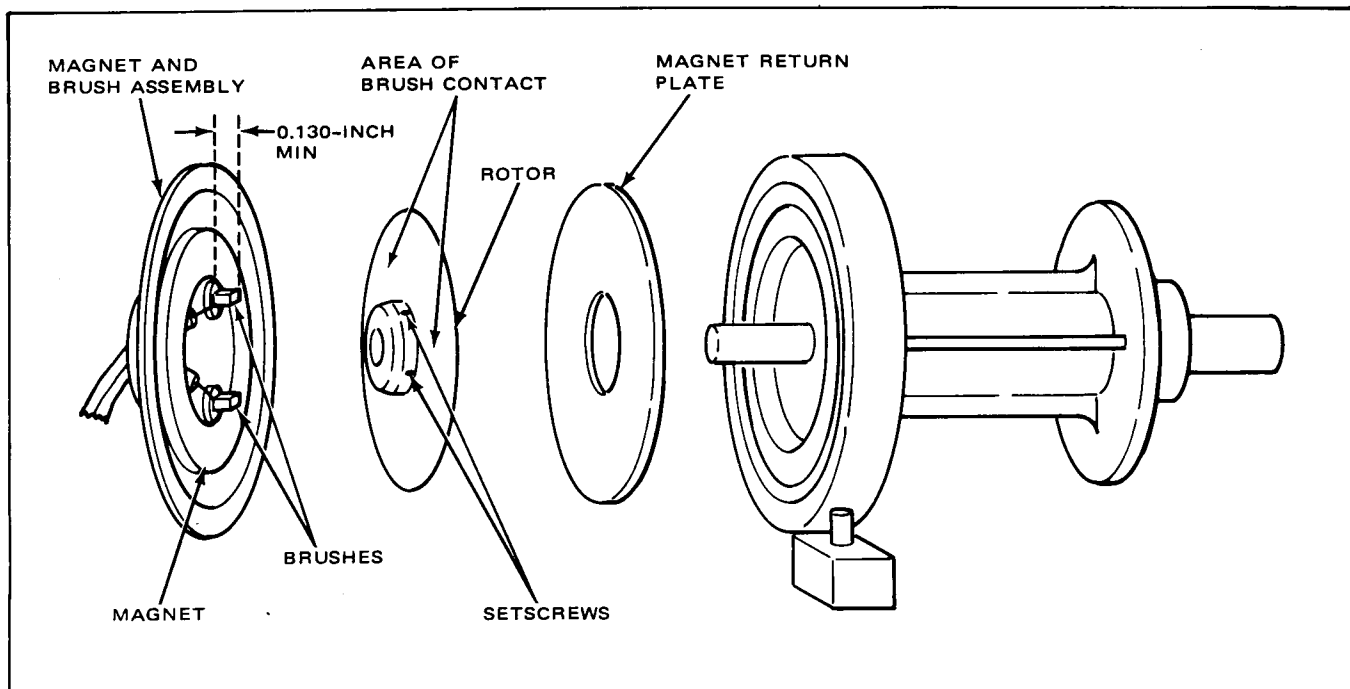

Figure 5-12. Servo Motor Maintenance
3. Carefully pry the magnet and brush assembly away from the motor body with a flat-blade tool (see Figure 5-12).
7. If the rotor was removed for cleaning, use a 0.010-inch feeler gauge between the rotor and the magnet return plate (see Figure 5-12) while tightening the rotor setscrews. Remove the feeler gauge and ensure that the rotor moves freely without binding.